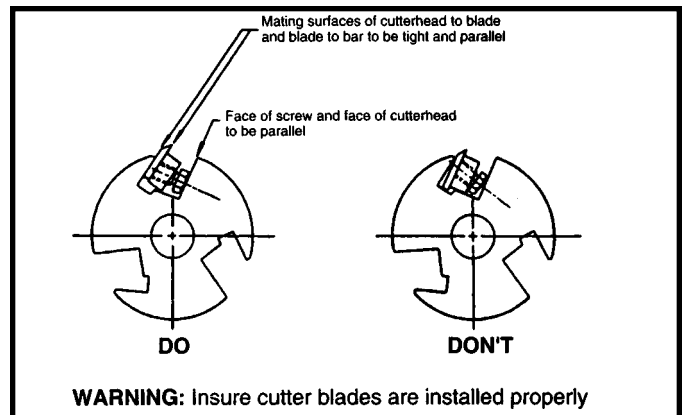

Fig. 56
**CAUTION** **KNIVES MUST BE INSTALLED CORRECTLY AS SHOWN IN FIG. 56.**